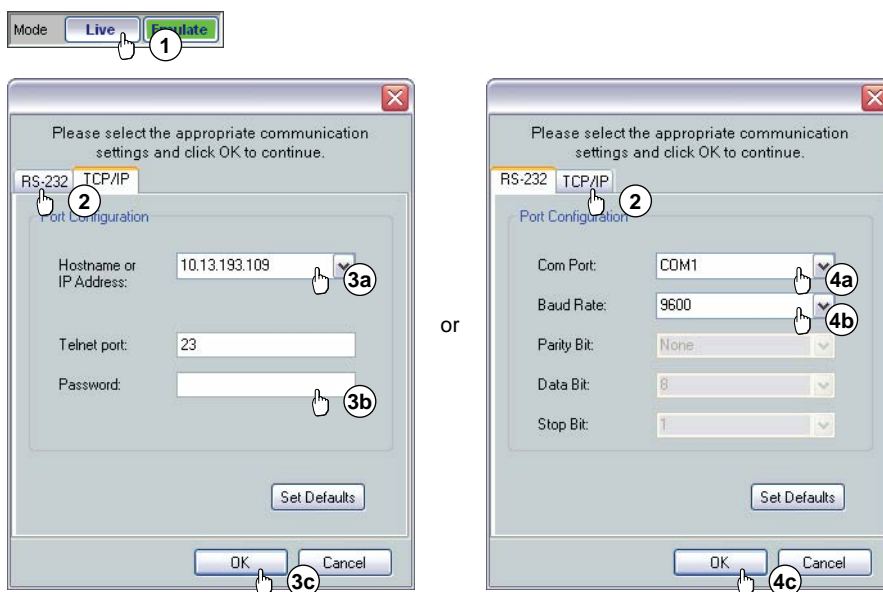

Figure 5-17 — Selecting Live mode
1. Click the Mode **Live** button (figure 5-17). The Communication Type Selection windows appears, with either the TCP/IP tab or RS-232 tab active.